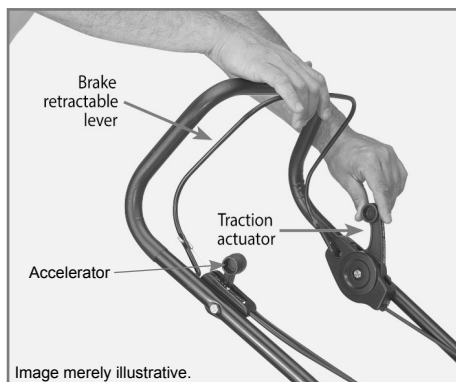

Figure 1
- ✓ Hold on tight the break retractile lever along with the cable. This engine has manual choke, therefore, position the accelerator lever in the maximum position to flood the engine (Fig. 1 - page 50). Position the acceleration lever in the position indicated by the choke symbol, according to the following figure.
- ✓ Keep the engine retractile break lever in the operation position with the engine on (Fig. 1 and 2).